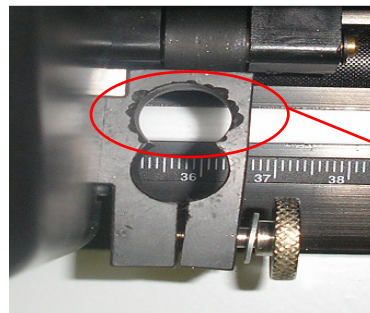

Figure 11.5
- 6** Loosen the thumbscrew on the cutting carriage (the black box that slides on the black rail). Insert the blade unit into the back opening of the cutting carriage. SEE FIGURE 11.5.